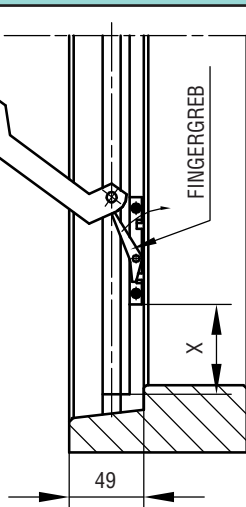

FIG. 1
- BESLAGET PLACERES I HØJRE SIDEKARM, SET INDEFRA, SÅLEDES AT FORKANTEN AF MONTERINGSPLODEN LIGGER OP MOD ALUMINIUMSSKINNENS BAGKANT, SE FIG. 1.
- VINDUET LUKKES VED AT ÅBNE VINDUET YDERLIGERE CA. 2 CM, OG DEREFTER DREJE FINGERGREBET TILBAGE MOD BAGKANTEN, SE FIG. 1.